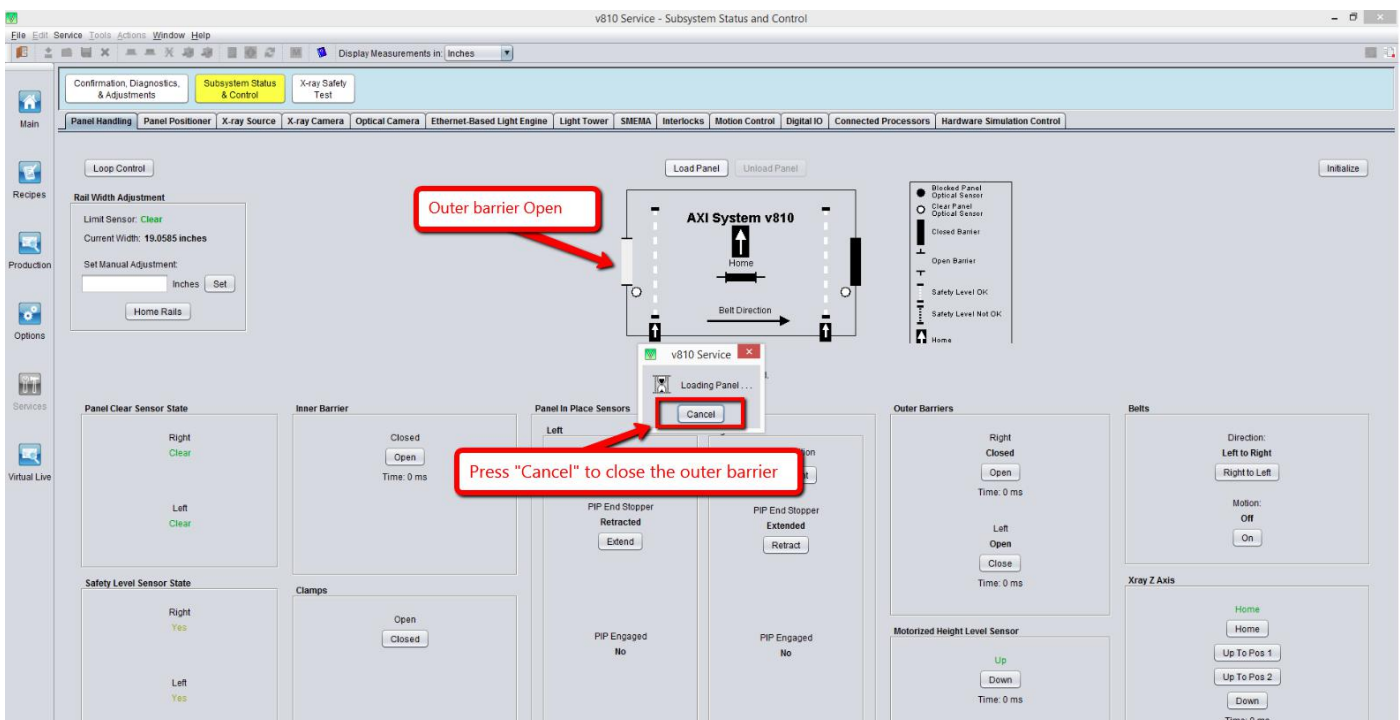

Figure 6 Outer barrier open
5. Once the outer barriers open, press the cancel button to close the outer barrier as shown in the Figure 6.